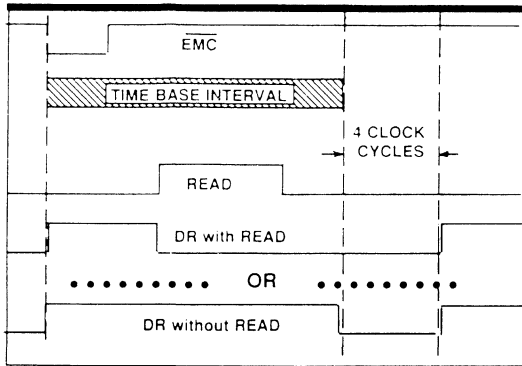

Figure 5. DATA RESET (DR) Timing
STATUS BLOCK — DR — Data Ready — Provides a logical "1" that indicates that data has been latched and is ready to be read. On POR or EMC, DR becomes high and remains high until either, (1) a READ operation is performed, or (2) the time base interval is completed. On initiation of the READ operation, DR goes low and remains low until 4 clock cycles after the TIME BASE ends. If there is no READ operation, DR goes low at the end of the TIME BASE interval, and returns high 4 clock cycles after the TIME BASE interval is complete (see Figure 5).